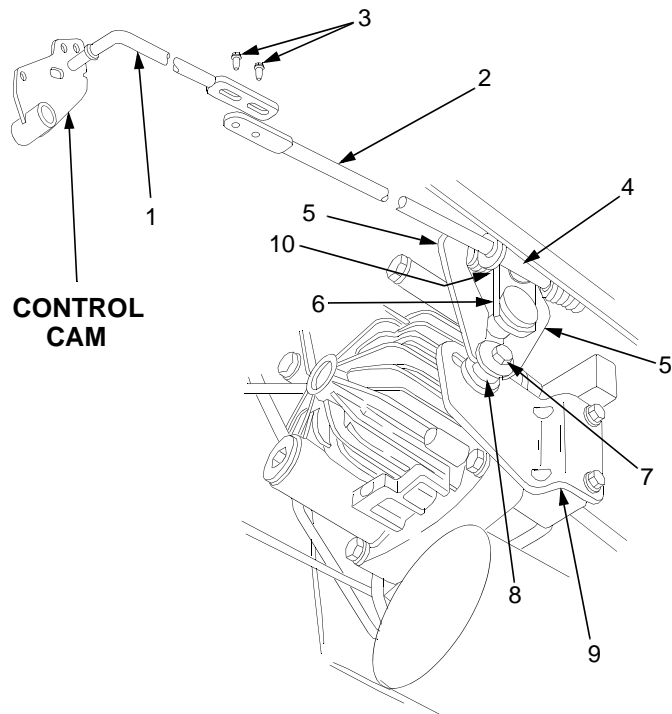

Figure 15.
- Disconnect the rear control rod from the control arm by removing the hairpin cotter from the pivot sleeve (Refer to Figure 15).
- If wheel rotation continues, loosen the locknut securing the hex cap screw and centering spacer to the neutral bracket (See Figure 15).
After completing the previous steps (1 thru 4) for checking neutral setting, adjust the control rod (See Figure 15) as follows:
2. While making certain to not move the front control rod, control cam or control arm (See Figure 15), slide the rear control rod in the direction necessary to directly align the pin of the pivot sleeve with the lower hole of the control arm.